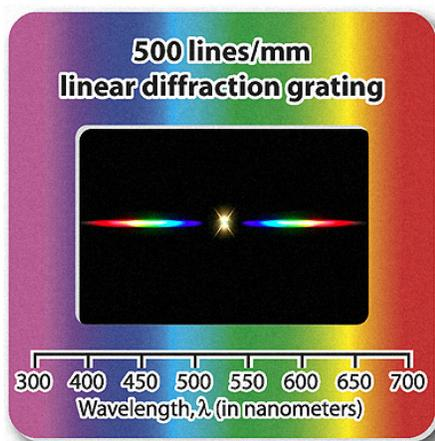
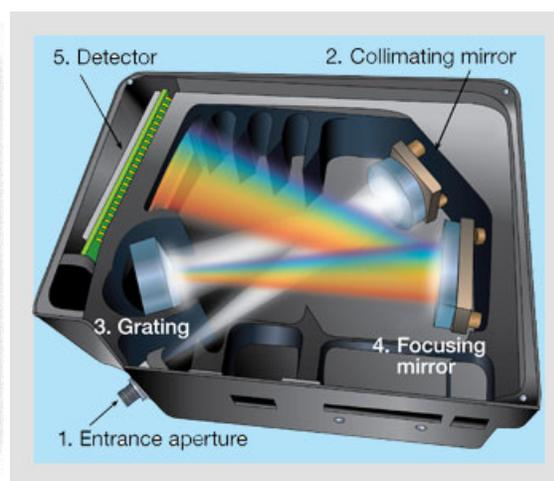

Figure 10.6: The diffraction grating.
Figure 10.7: Schematic of how a digital spectrometer works.
Like a prism, a **diffraction grating**³ spreads out incoming light into a spectrum. Instead of using dispersion to spread out the light, a diffraction grating bends smaller wavelengths more than it bends larger wavelengths. A picture of the diffraction grating you will be using is shown in Fig. 10.6. The digital spectrometer you will be using also uses a diffraction grating, instead of a prism, to spread out the light. A schematic of how a digital spectrometer works is shown in Fig. 10.7.
- Diffraction grating (see Fig. 10.6)